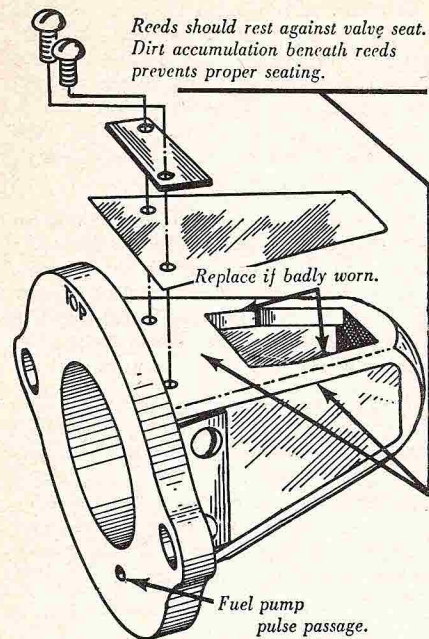

Fig. HL21—Pyramid type reed valve. If reed seating surfaces of adapter castings are worn reject the casting.
**REED VALVE.** The reed valve should be inspected whenever the carburetor is removed. Some engines are equipped with a pyramid type reed valve as shown in Fig. HL21. A single reed type valve, shown in Fig. HL22, is used on models 17, 17L, 5-20, 5-20L, EZ, ZIP, ZIP-5, WIZ, BUZ and 500.